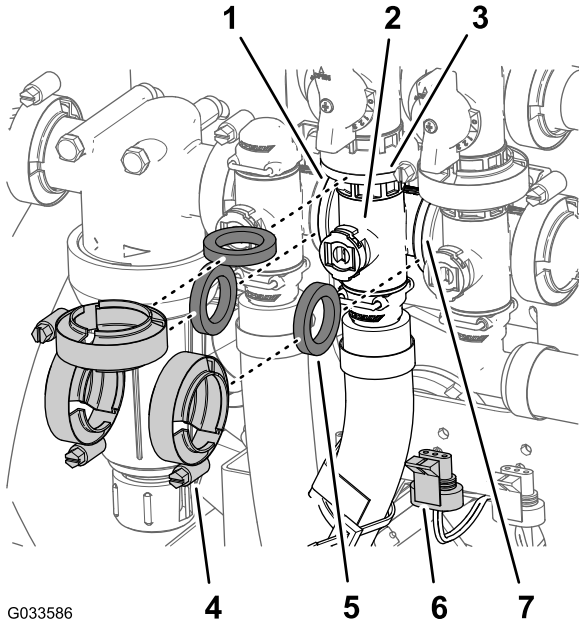

Figure 112
1. Remove 3 flange clamps and 3 gaskets that secure the manifold for the agitation valve (Figure 112) to the agitation bypass valve, rate control valve, and master-boom valve.